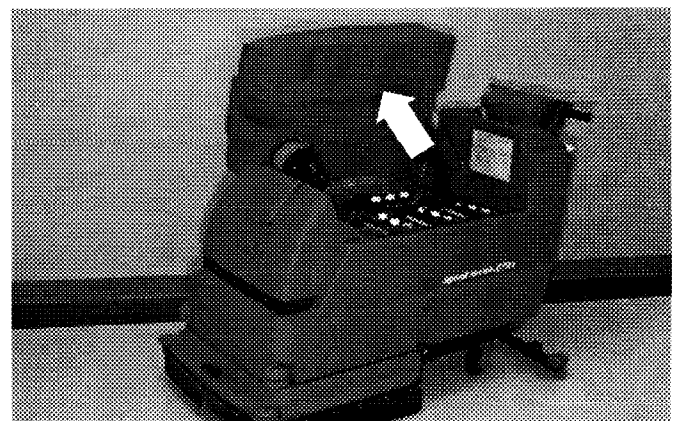

FIG. 3
2. Carefully hinge open recovery tank to access battery compartment. Remove loose battery cables from compartment. (Figure 3)